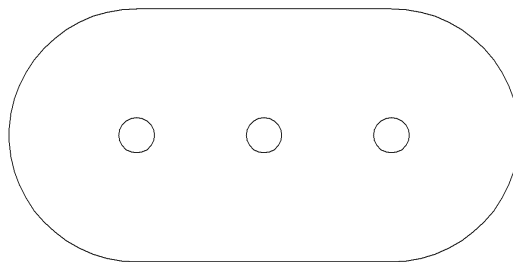

Figure 3 – Weld Pocket Detail
- Tack gage in place using a single weld in corner 1. This initial weld should be centered in the weld pocket as shown in figure 3.
- Add 2 additional welds to each weld pocket. Position one weld to the left of the initial centered weld. Position the other weld to the right of the initial centered weld as shown in figure 3.